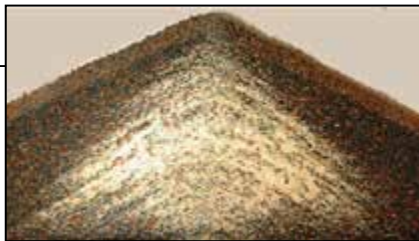

FIGURE 8. Sifting is a common segregation method
1. A perfect blend does not guarantee uniform product. Consider that every time a transfer step occurs in a powder handling process, the mix or blend has the potential to segregate. Common segregation mechanisms [6] occurring during industrial powder handling applications include sifting (Figure 8), fluidization and dusting. Depending upon which mechanism of segregation occurs, the fine and coarse particles will concentrate in different locations in the bin or hopper, thus rendering location-specific sampling results. Sample at each piece of equipment that the powder has transferred into to evaluate if segregation has resulted due to powder transfer.